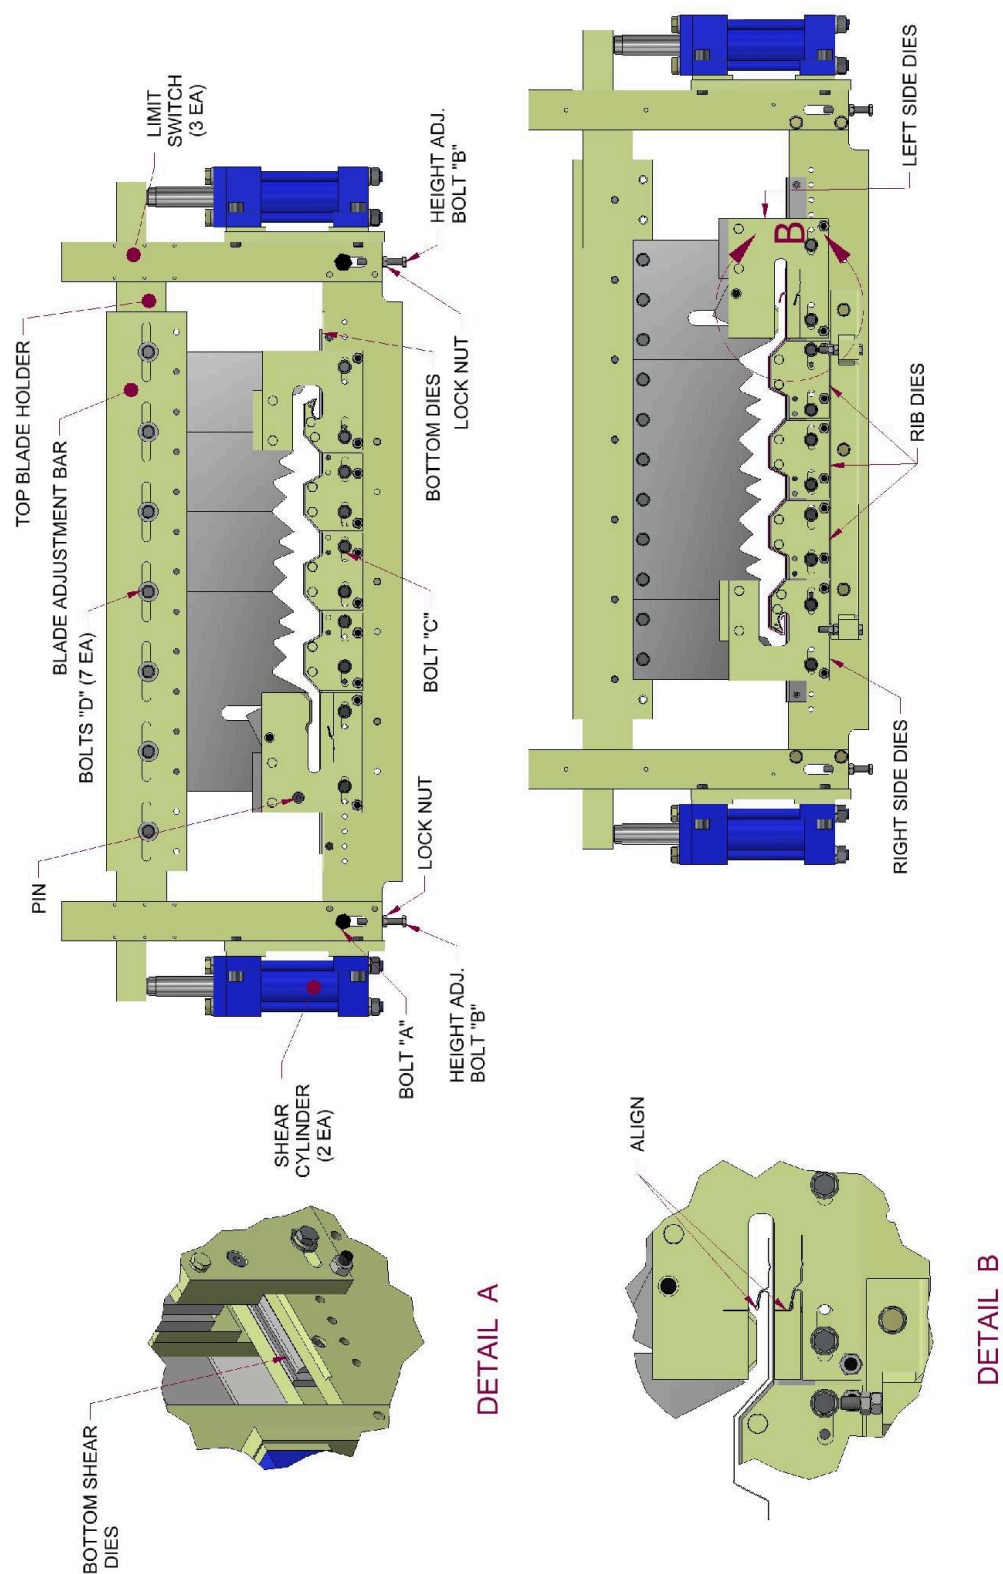

Figure 23: Entry/Exit Views
SHEAR ADJUSTMENTS (Figure 23)
1. The bottom dies should be adjusted 1/32" below the bottom corners of the panel. Loosen the (2) "A" bolts on the left and right Front Vertical Plates. Loosen the (2) lock nuts on the (2) Height Adjustment bolts "B". (See Figure 23)
3. After adjustments have been made, tighten (2) "A" bolts and (2) Lock Nuts on Height Adjustment Bolts "B".
The left side dies feature a pivoting shear die on each side of the blade that supports the hem so it does not get crushed when shearing the panel. In order to work correctly, the left dies should be located so that the etched line is roughly aligned with the tip of the folded over hem (see Detail B of Figure 23). The dies have been aligned at the factory to the WAV-16-4F profile and should only need to be moved if the machine is being set up for the 8" or 12" panels. To adjust them, follow the steps below.